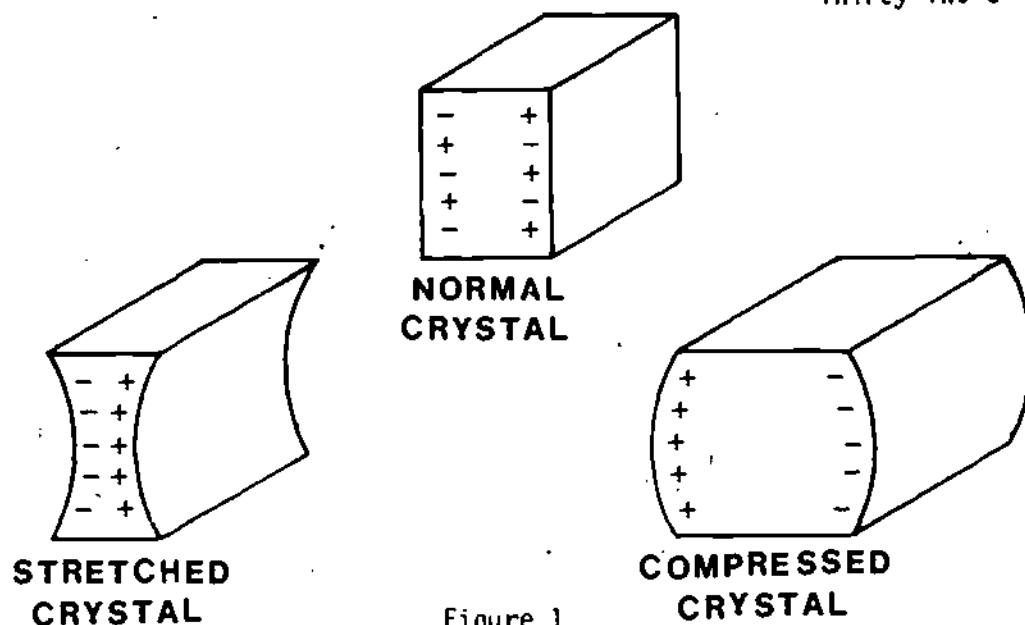

Figure 1
2. Tourmaline, rochelle salt, and quartz crystals have special properties that are useful in electrical circuits. What are these properties? Each of the crystals mentioned above has the ability to produce a voltage when pressure is applied to it. Conversely, each exhibits a mechanical strain when a voltage is applied to it. This property is called the "piezo electric effect" and is illustrated in Figure 1.